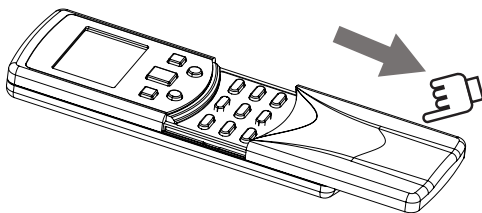

Figure 2.5
1) Slide open the front cover of the remote controller in the direction indicated by the arrow (see Figure 2.5);